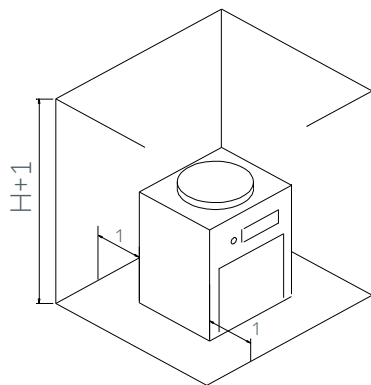

Fig. 1
Leave a space of 1m (40") in the front, right and left panels of the UC unit (see figure 1). In UC-0180/0240 it is necessary to leave 1m (40") on the back panel too. This space is important to facilitate maintenance work and cleaning, especially in front of the condenser(s) grid.
**Figure 1:** In case of installation in a small room it is imperative that the room has an appropriate ventilation system to evacuate all the heat generated by the chiller as explained before on this same point. If the heat is not removed the temperature in the room will quickly increase beyond the operating limits of the unit and it will stop by high pressure alarm (see point 4.1).